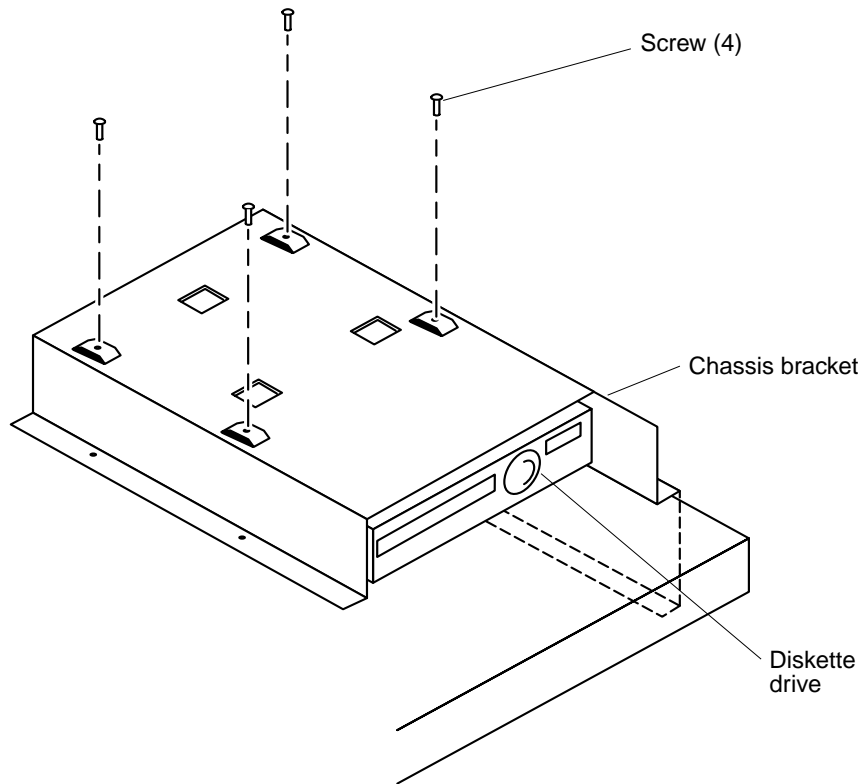

FIGURE 9-10 Positioning the Diskette Drive
6. Remove the four screws securing the diskette drive to the chassis bracket (FIGURE 9-10).